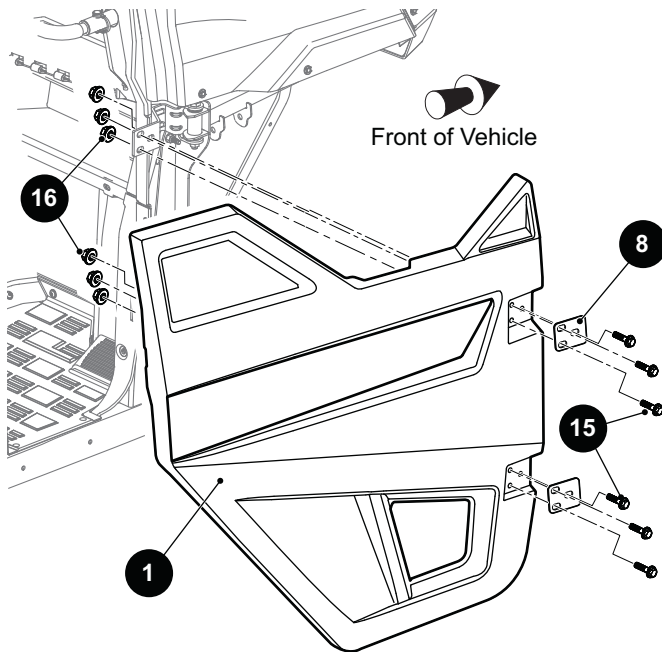

Fig. 9 Door
1. Remove the bolts (15), nuts (16) and hinge plate (8) that secure the door (1) to the upper and lower door hinges (See Fig. 9).